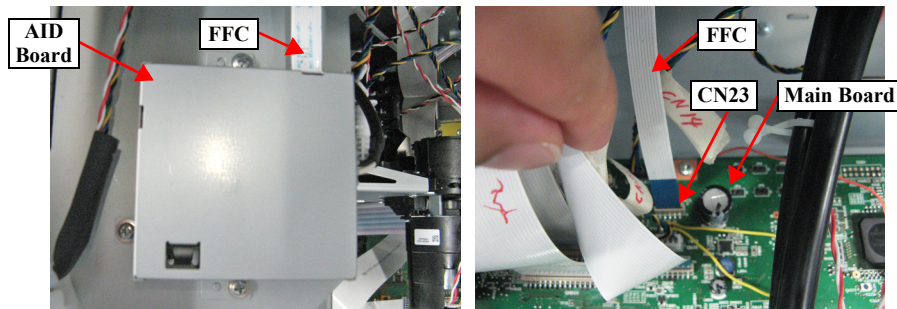

Figure 5-67. Checking the AID FFC
27. Disconnect the FFC from the AID Board and check if there is any peel, scratch or damage on the terminal. (Figure 5-67)